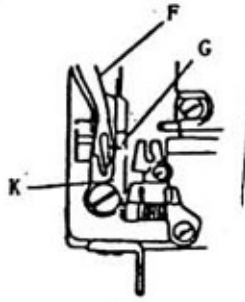

Fig. 22
- Turn the machine pulley to see if Spreader F collides with Point G of Needle Guard K (Fig. 22). If it does move the eccentric bushing left a little.